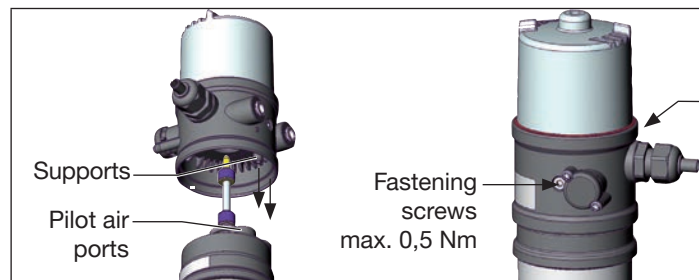

Fig. 9: Installation of the Pneumatic Control Unit, 21xx series
- Align the Pneumatic Control Unit until the supports of the Pneumatic Control Unit can be inserted into the pilot air ports of the actuator (see also “Fig. 9”).